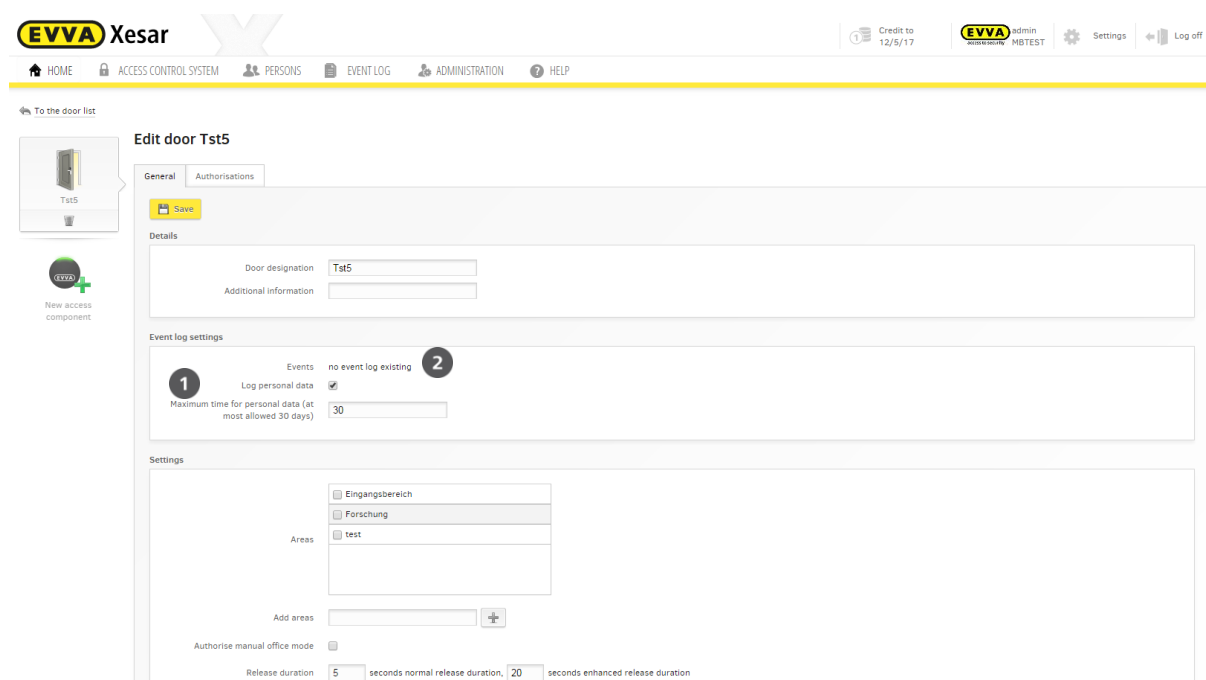

Figure 84: Showing the personal data protocol
If the **Log personal data** function ❶ (Figure 84: Showing the personal data protocol) is on, you can click **Show protocol** to view the protocol list for this door ❷ (**Protocol settings**).